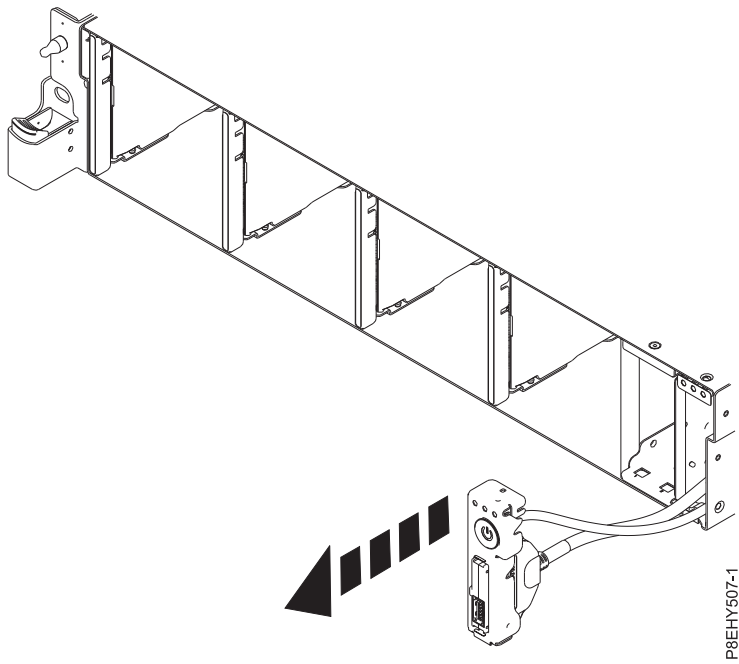

Figure 22. Pull out the switch and cable
9. Pull the power switch from the system. See Figure 22.